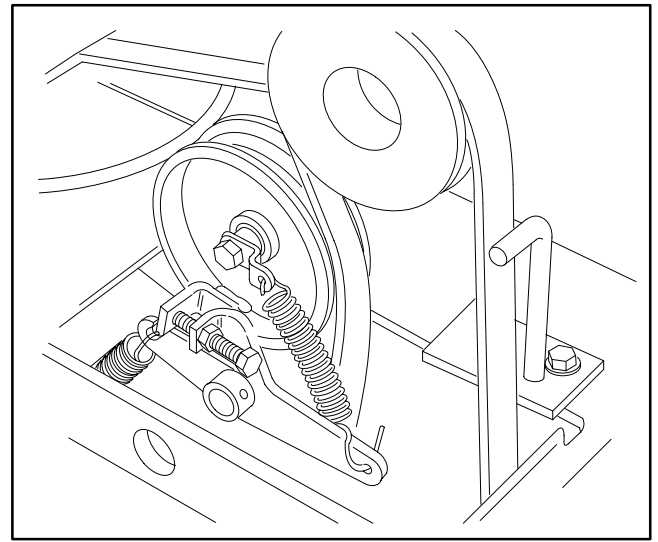

Figure 3
1. Position drive belt to transaxle and engine pulleys noting correct belt routing (Fig. 3).